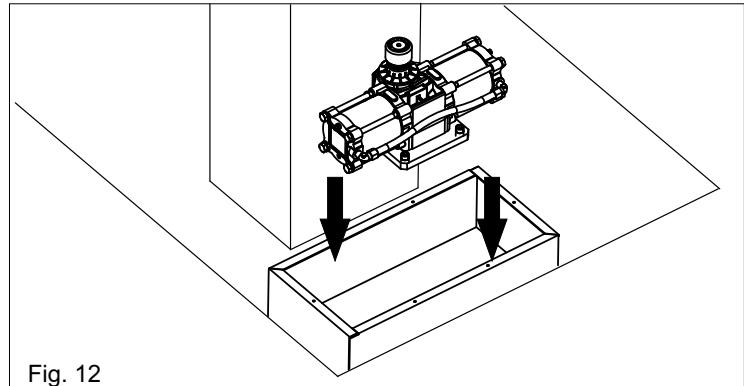
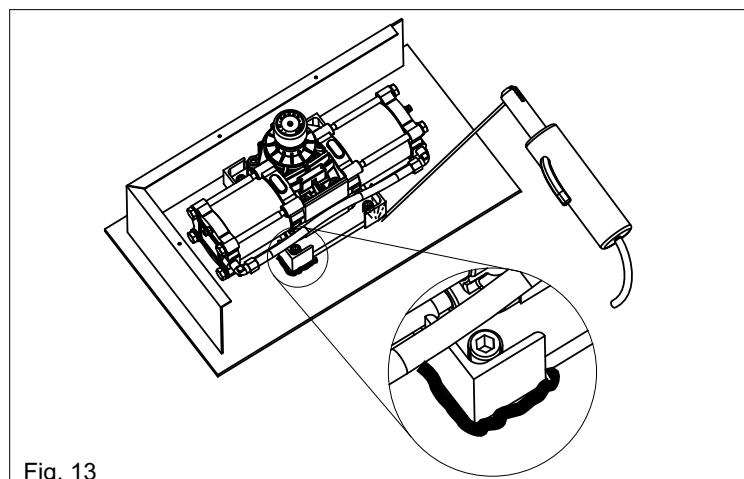

Fig. 12
Fig. 13
3.1. Place the jack inside the foundation box (Fig. 12) positioning the axis of the output shaft aligned with the axis of the hinge of the gate and weld the four angular ends to fix the same (Fig. 13).